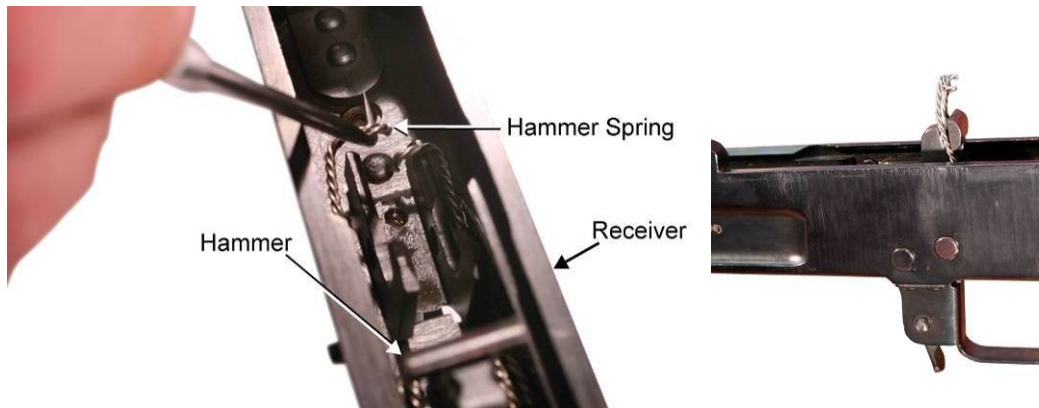

Figure 20. Placing the Ends of the Hammer Spring Behind the Hammer.
- g. Using needle-nosed pliers or the curved scraper tool, pull the ends of the hammer spring behind the hammer. If necessary, secure the ends with wire. Refer to Figure 20.